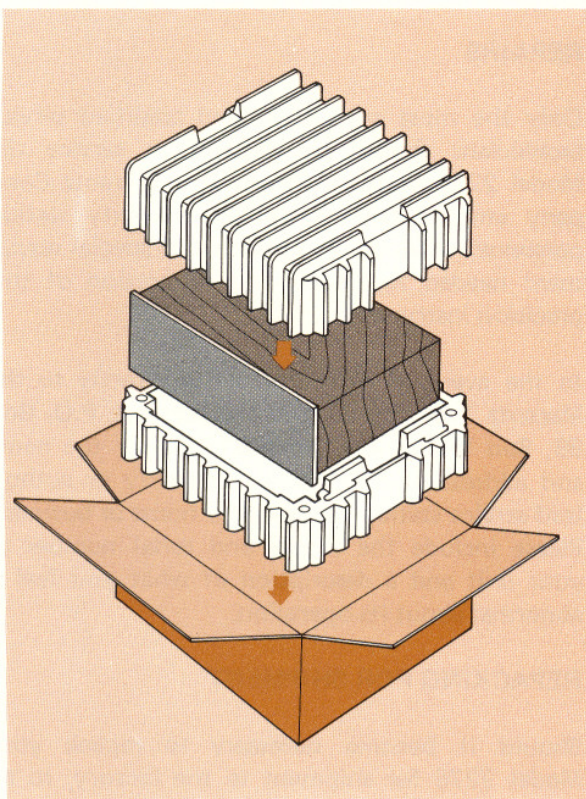

Figure 10. Packing Instructions
- c. Pack the unit carefully, using the original material as shown in Figure 10.